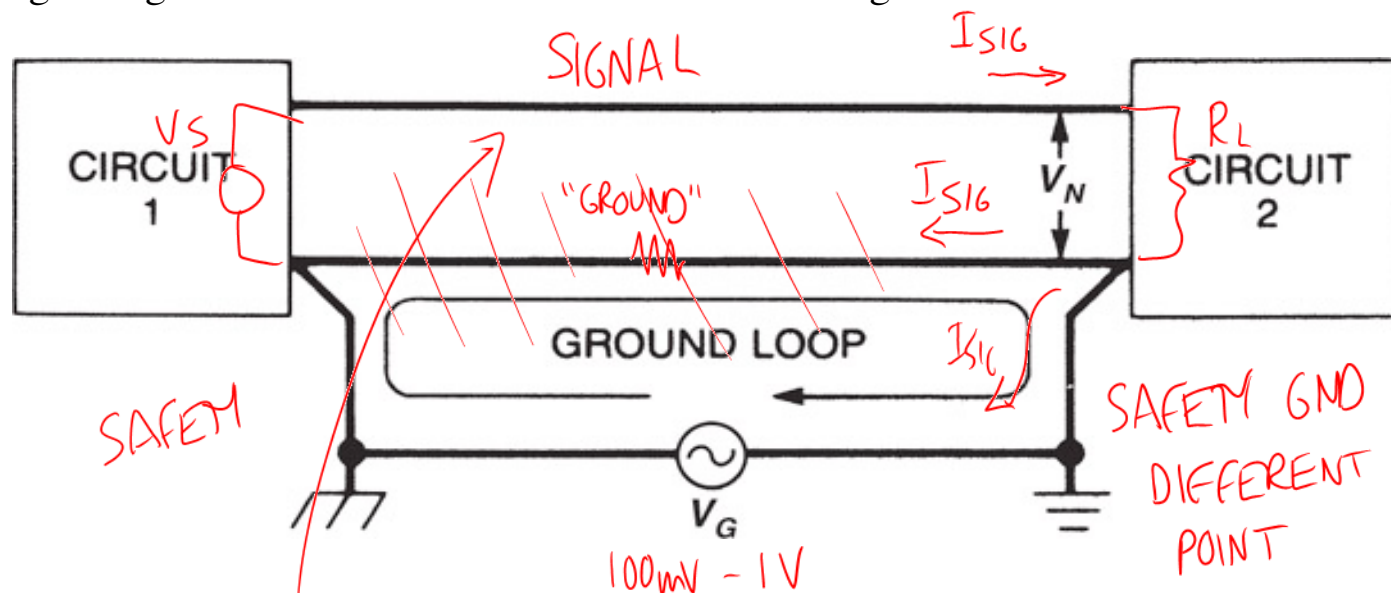

Figure 3-33: A ground loop between two circuits
Figure 3-33 shows a system grounded at two different points. Two different ground symbols are shown in the figure to emphasize the fact that the two physically separated ground points are likely to be at different potentials. This configuration has three potential problems, as follows:
1. A difference in ground potential V_G between the two grounds may couple a noise voltage V_N into the circuit as shown in Fig. 3-33. The ground potential is usually the result of other currents flowing through the ground impedance.
2. Any strong magnetic fields can induce a noise voltage into the loop formed by the signal conductors and the ground, which is designated as "ground loop" in Fig. 3-33.
The ground loop shown in Fig. 3-33 can be broken by one of the following: